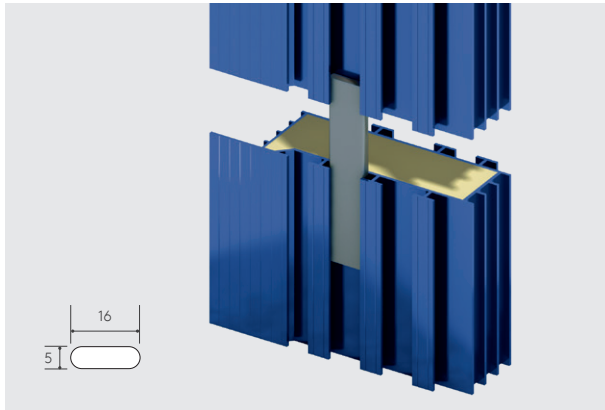

Figure 30: Jointing Strip - Grey
- A jointing strip (Figure 30) should be used to align and connect the two abutting sections as sections are being built-in.